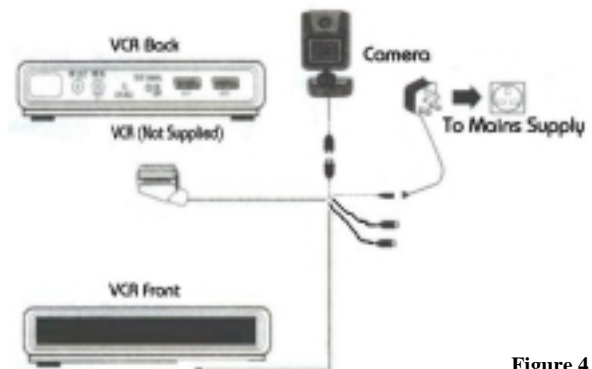

Figure 4
- a) Connect the Scart lead of the **Connection Lead Set** to the SCART input on the rear of the VCR. (See figure 4.)